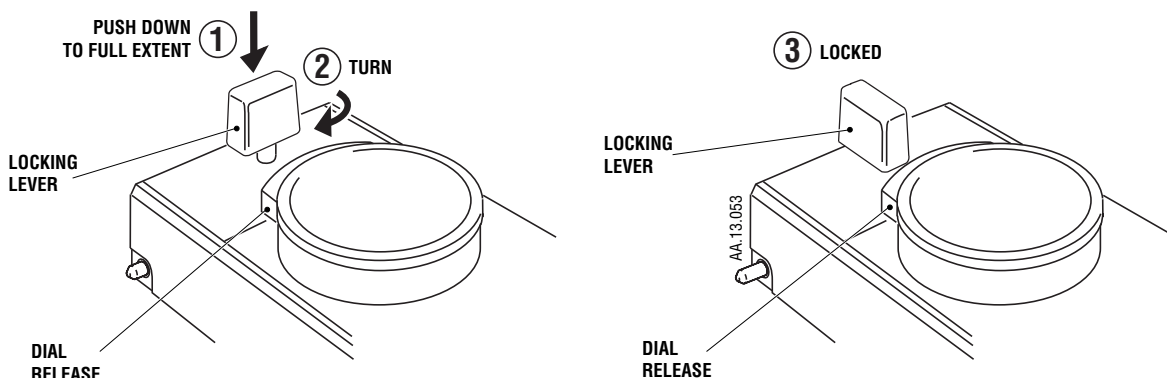

Fig. 3 Locking The Vaporizer On To A Manifold
6. Press down the locking lever ① to the full extent of its travel and then turn it clockwise ② to the locked position ③ to lock the vaporizer on to the manifold as illustrated on Fig. 3.